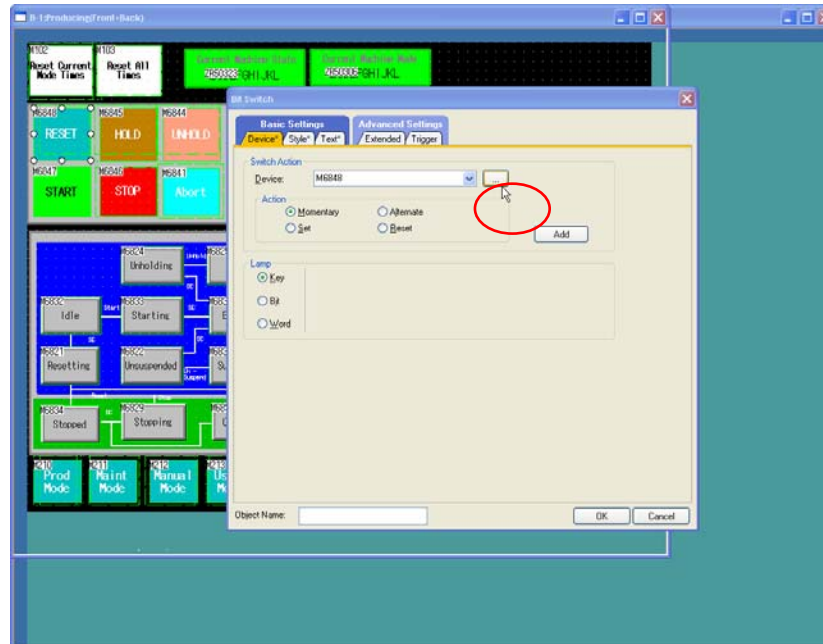

Figure 32 – Configuring a Bit Switch Object to Use the System Label
- b. Double click on one of the objects on a GOT screen where a system label will be use to bring up the corresponding Object Property window as shown in Figure 32 as an example.
- c. Click the “...” button as shown in Figure 32, the following screen will appear for the user to select the system label that should be used with the selected bit switch device. Click the “Select System Label” button.